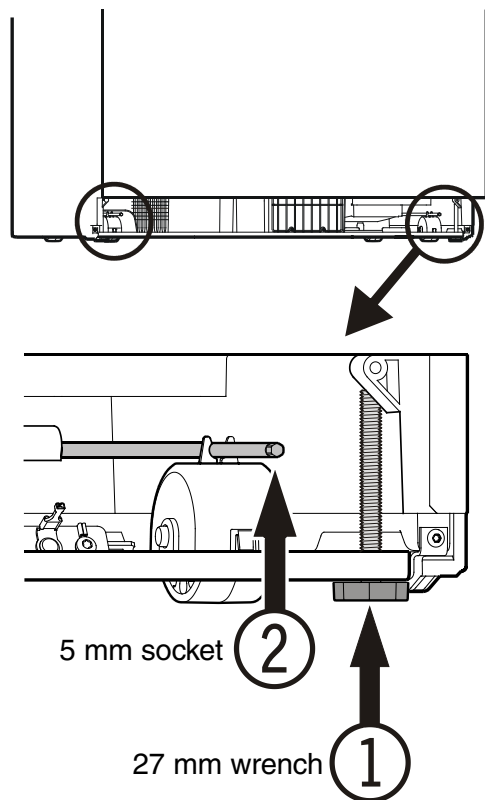

Figure 13
Leveling the Refrigerator - Figure 13
To prevent the appliance from tipping forward the leveling feet ① (Figure 13) must have contact with the floor.